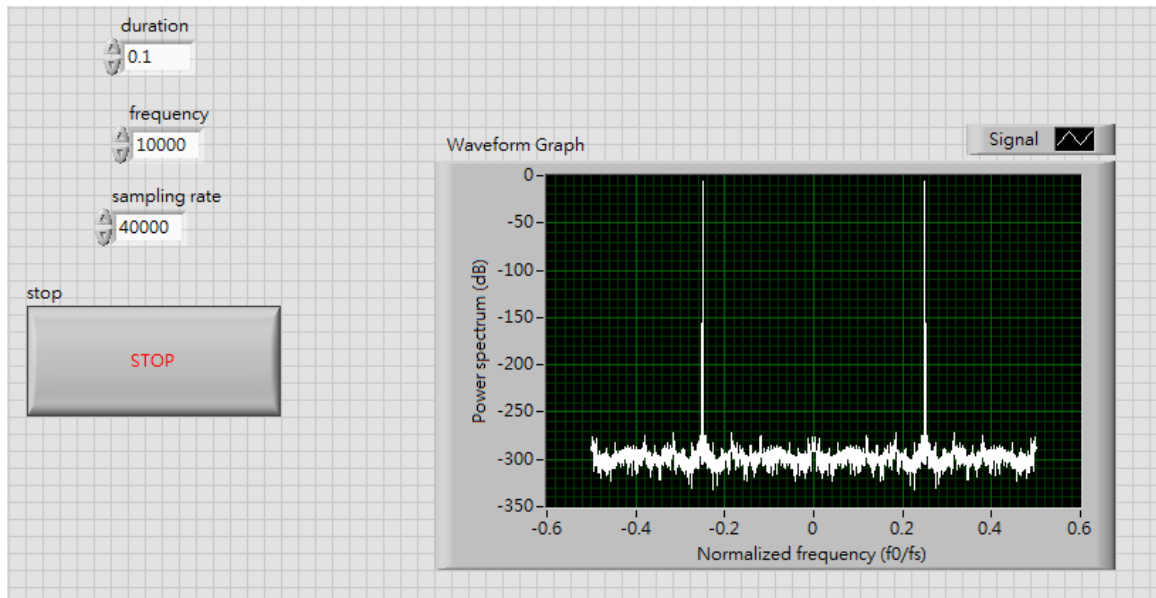

Figure 8: result of example 1
5. **Control panel:** After the block diagram part of this example is complete, we can now test our program in the control panel. Fig. 8 is a result with parameters:  $f_0 = 10^4$ ,  $f_s = 4 \times 10^4$ ,  $T_d = 10^{-1}$ .
Now, we briefly explain the design of this example. First, in system configuration part, we use system parameter and pulse shaping generator to create coefficients and symbol map that will be used for Waveform generator/converter loops. Second, the message source loops are created. In this case, we use texts as source. After converting texts to bytes arrays, we use queues to pass bytes stream to packet formatter. The operation of packet formatter is the same as in previous section. Thirdly, bit-stream of packets are passed to waveform generator to form waveform. Note that this is a simulation example. So a simulation channel `Add AWGN noise.vi` is placed here to include the effect of channel noise. The rest of the signal flow is reverse to how waveforms are generated. Fig 8. is a result from the simulator.